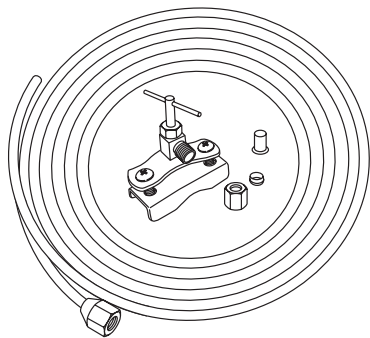

Figure 11
Water Connection For IceMaker Models Only - Figure 11
- Use a 1/4 in. OD copper line to connect the water supply to the solenoid valve. This is not supplied with the refrigerator (**Figure 11**).